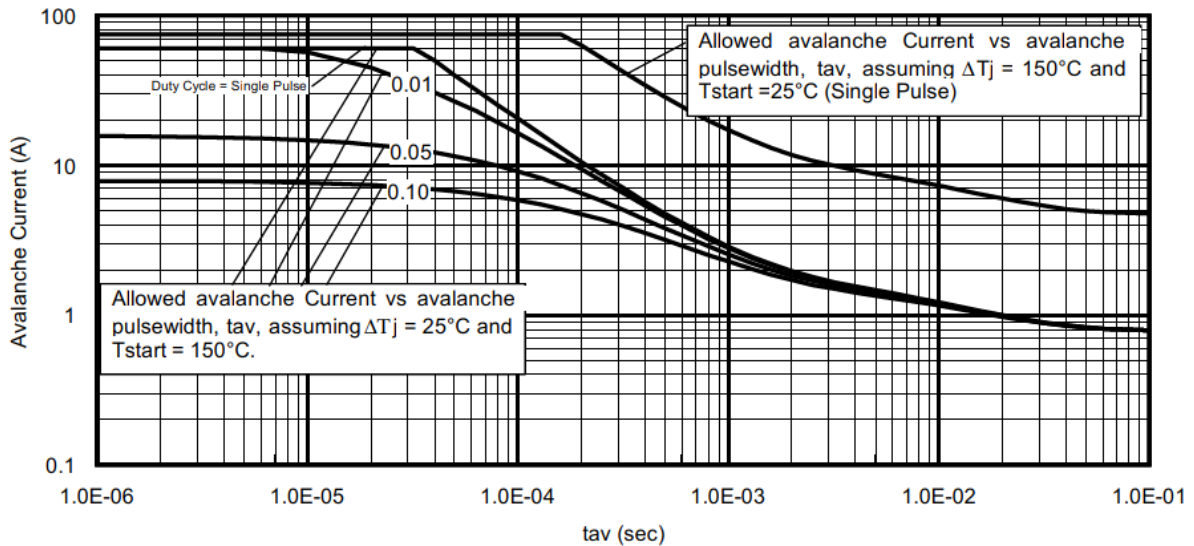

Fig 14. Avalanche Current vs. Pulse width
| $I_{AR}$ | Avalanche Current $\text{\textcircled{2}}$                                 | See Fig.14,15, 22a, 22b | A  |
**Notes on Repetitive Avalanche Curves , Figures 14, 15:**